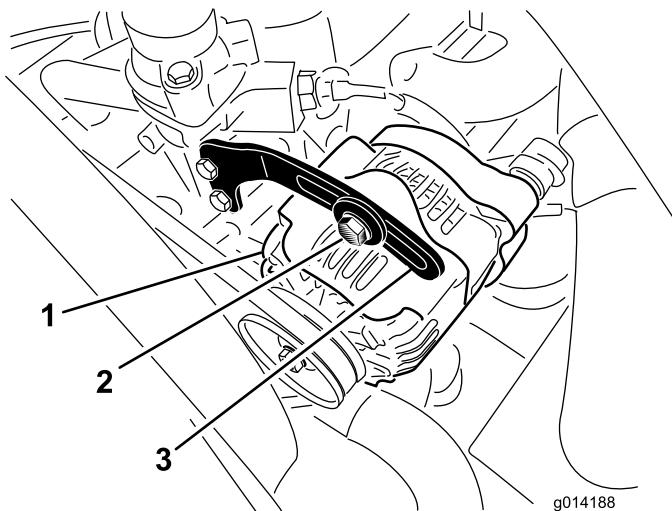

Figure 38
2. Check the tension of the alternator belt by depressing it (Figure 38) midway between the alternator and the crankshaft pulleys with 10 kg (22 lb) of force.
3. Loosen the bolt securing the brace to the alternator (Figure 38), and the alternator pivot bolt.